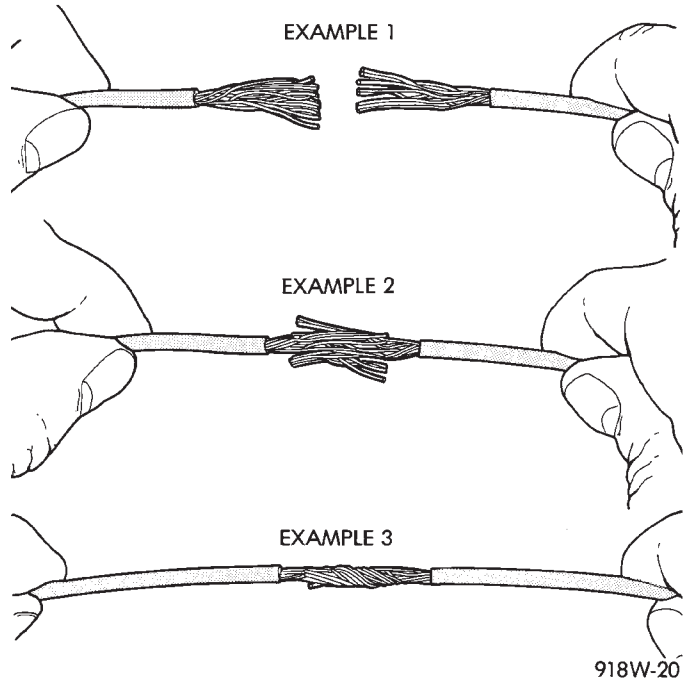

Fig. 11 Wire Repair
(1) Disconnect battery negative cable
(2) Remove 1 inch of insulation from each end of the wire.
(3) Place a piece of heat shrink tubing over one side of the wire. Make sure the tubing will be long enough to cover and seal the entire repair area.
(4) Spread the strands of the wire apart on each part of the exposed wire (example 1). (Fig. 11)
(5) Push the two ends of wire together until the strands of wire are close to the insulation (example 2) (Fig. 11)
(6) Twist the wires together (example 3) (Fig. 11)
(7) Solder the connection together using rosin core type solder. **Do not use acid core solder.**
(8) Center the heat shrink tubing over the joint, and heat using a heat gun. Heat the joint until the tubing is tightly sealed and sealant comes out of both ends of the tubing.
(9) Secure the wire to the existing ones to prevent chafing or damage to the insulation
(10) Connect battery and test all affected systems.